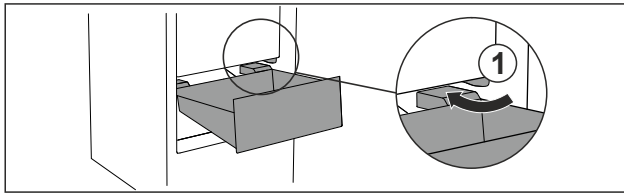

Fig. 97
- ▶ Guide drawer in at an angle around the stoppers Fig. 97 (1).